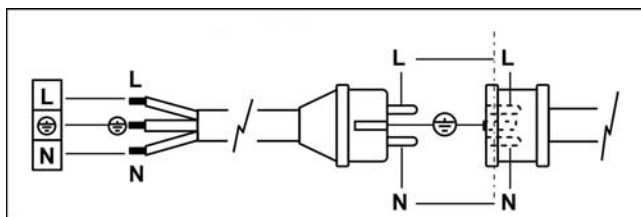

Fig. 2
The gas supply hose connection must be of suitable size and adequate for the type of system to be set up and must be effected by arranging the "gas ramp" as shown in Fig. 2: the gas pipe (1), the cut-off valve (2) and the antivibration coupling (3) are not supplied with the heater and so must be provided by the installer connecting them to the al gas valve group (4) supplied with the space heater.